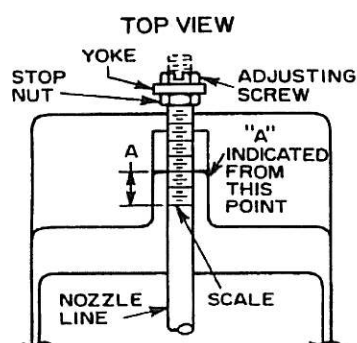

Figure 5-7. Retention Ring Adjustment
1. Turn adjusting screw (9, Figure 6-9) in (clockwise) to increase distance "A" ahead. This distance is indicated by scale on nozzle line across corners on sides of channel guiding nozzle line. Each division is 1/16". For details and to ensure correct adjustment, refer to Figure 5-7 and Table 5-3.